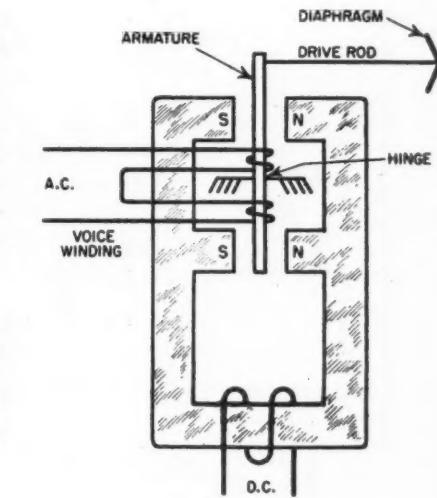
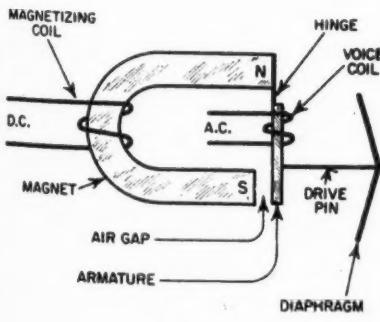

Figure 2
Figure 1
Fig. 1 illustrates one of the simplest types of loudspeaker motors. It is generally known as the vibrating reed type of motor. It was one of the first motors used in loudspeakers and is still used occasionally in the smaller types of speakers. It consists of a magnet, either permanent or electromagnet, an armature hinged at one end and free to move at the other, and a voice coil coupled to the magnetic circuit which superposes an alternating signal on the
*Fig. 2* represents the balanced armature type of structure. One purpose of the balanced armature is to reduce the second harmonic distortion.
In actual practice the balance of the windings is never perfect so that even harmonic distortion does result, but it is much reduced by the balanced armature motor of *Fig. 2* compared to the reed type of *Fig. 1*. Sometimes the voice coils are connected directly to the plate circuit of the power amplifier so that the plate current flows through the voice coils, thus adding a steady pull to the magnet flux. This is likely to deflect the armature and pole pieces. Also, at maximum excursion of the
In actual practice there would also be a series of even harmonics. Whence, for the motor of *Fig. 1* we have
Proceeding in like manner for the perfectly balanced motor of *Fig. 2*, we find that: